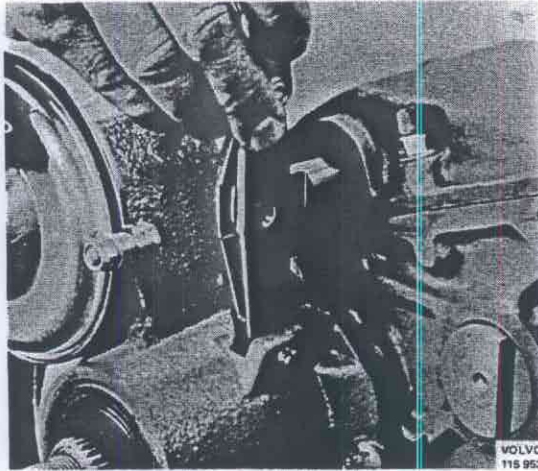

Fig. 43-203. Placing the lever
16. Remove the indicator and remove the rear flange with 2261. Remove the rear cover and the shims. If the lever has been removed, fit it according to Fig. 43-203.